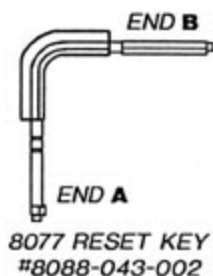
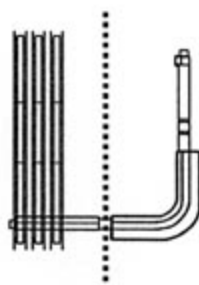

Figure 4
Figure 5
- Step 9 – Insert end **B** of the reset key (Figure 4) through the padlock's change key hole until the rib of the key is just outside the padlock (Figure 5). It may be necessary to wiggle the key slightly to insert it fully into the lock.